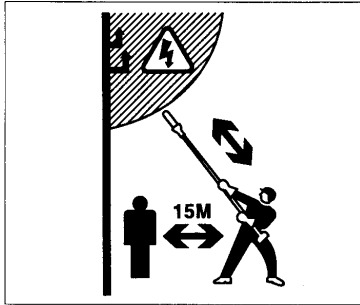

Fig. 2-9
- Review the area to be trimmed. Look for hazards that could contribute to unsafe conditions. DO NOT operate unit if any wires (power, telephone, cable, etc.) are closer than 15M (50ft.) to any part of the operator or unit. (Fig. 2-9)